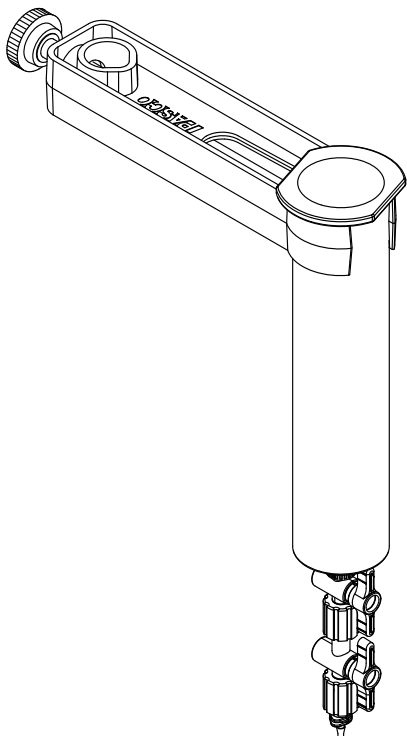

Figure 1. The complete Drop Dispenser, consisting of the syringe, two stopcocks, and the drop tip, connected to the syringe holder.
4. Attach the Drop Dispenser (syringe, two stopcocks, and drop tip) to the support rod using the syringe rod, as shown in Figure 1.